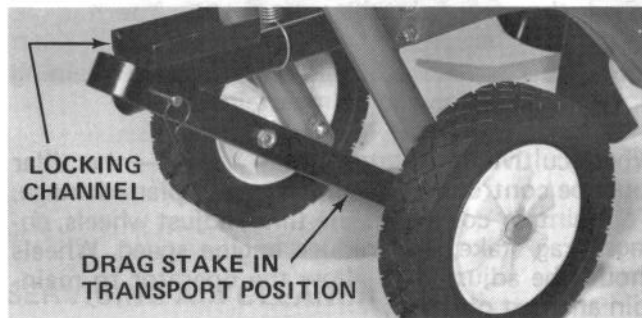

Figure 15
1. After tilling, move drag stake forward and rotate locking channel to hold drag stake in transport position (Fig. 15).